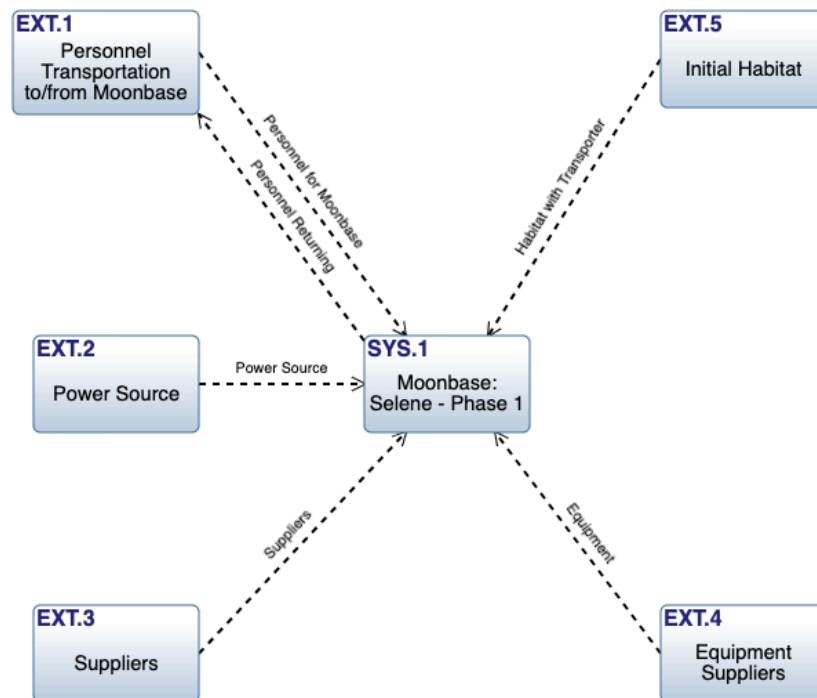

Figure 19. Completed Physical I/O Diagram
6. Follow the table below to create the completed Physical I/O diagram, as shown in Figure 19.
5. Start typing in the Action Entities from the pull-down menu as shown in Figure 19 below.